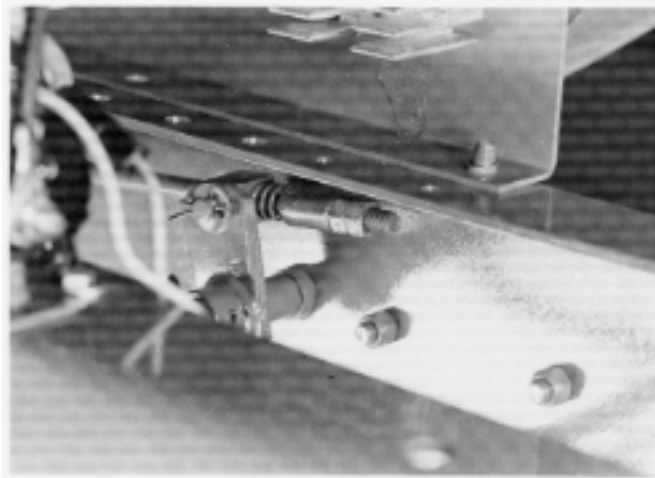

Fig. 5-22 D-Series, Brake Band Adjustment (front)
4. Front brake adjustment is only required if the linkage is removed. The jam nuts are adjusted so the spacer just contacts the spring, and the spring remains free to turn. See Fig. 5-22.